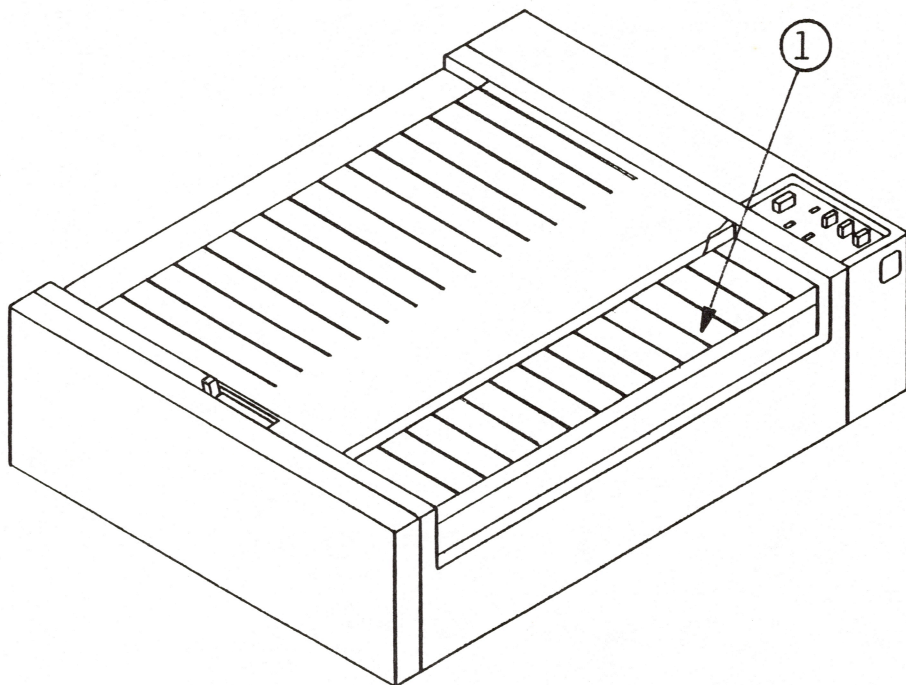

FIGURE 3
2. Lift up and remove the carrier cover (see Figure 3, #1).